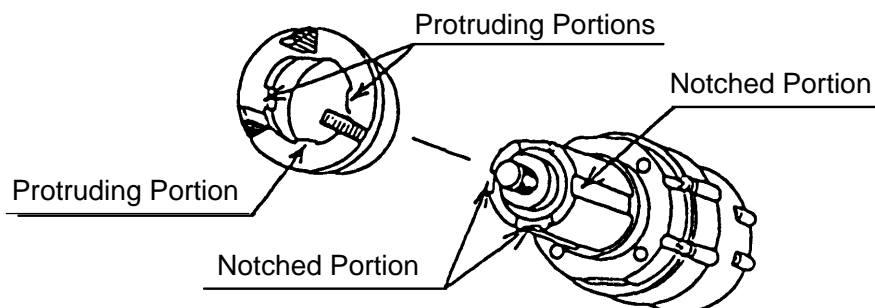

Fig. 5
(a) When assembling the Spindle Holder ⑫ onto the Spindle Gear Set ⑬, ensure that the notched portions of the Spindle Gear Set ⑬ are properly aligned with the matching protruding portions of the Spring Holder ⑫. (See Fig. 5)